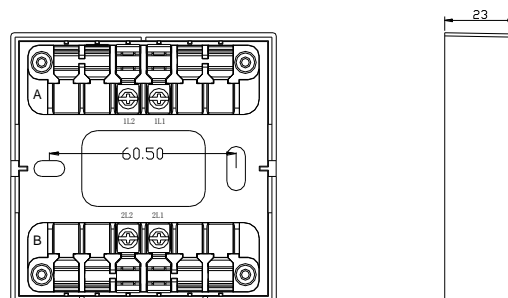
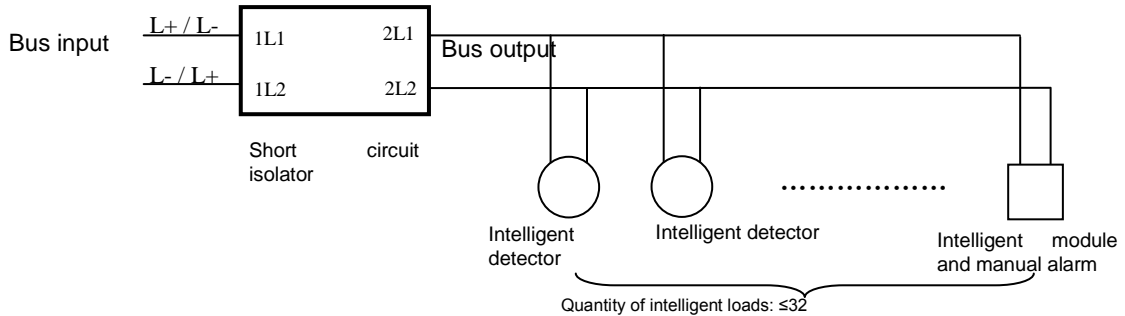

Fig.2 Base of a ATL-957 Short Circuit Isolator
Fig.3
2. Conduct correct wiring as instructed in Fig.2 or Fig.3.
3. Use two M4 screws to fix the module base via the two elliptic screw holes shown in Fig.2, and then insert the main body of the module into the module base and make sure they contact properly.